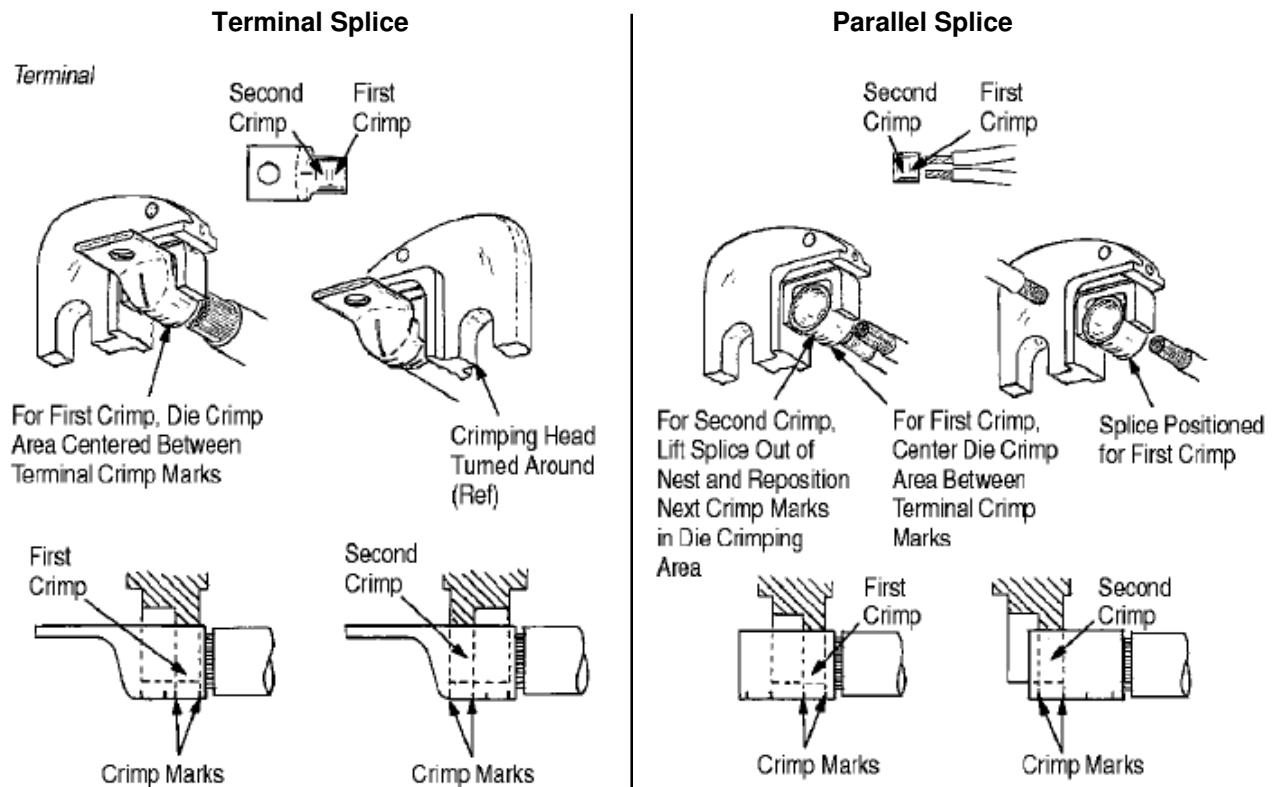

Figure 5
- Place the terminal or splice in the stationary die as shown in Figure 5.
- Before making the 2nd crimp, it will be necessary to turn either the terminal (or splice), the crimping head, or the dies around. Then, position the terminal or splice in the dies as shown in Figure 5 and repeat Steps 2 and 3.